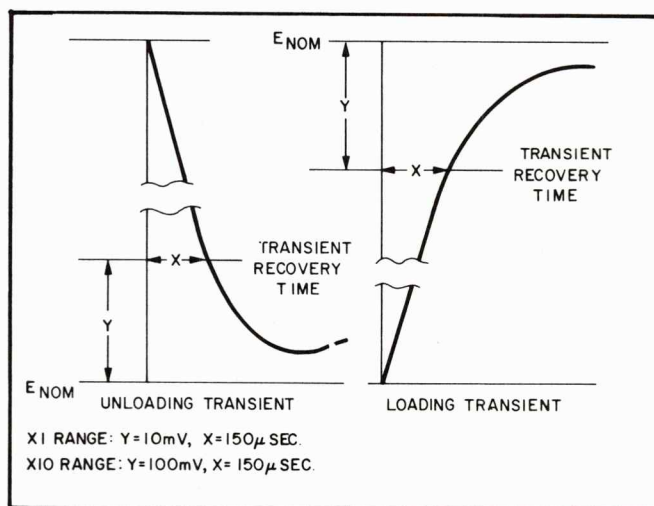

Figure 5-6. Transient Recovery Time, Waveforms
h. Starting from the major graticule division representative of time zero, count to the right 150 μ sec and vertically 100mV. Recovery should be within these tolerances as illustrated in Figure 5-6.
j. The transient recovery should be within 10mV at 150 μ sec as illustrated in Figure 5-6.